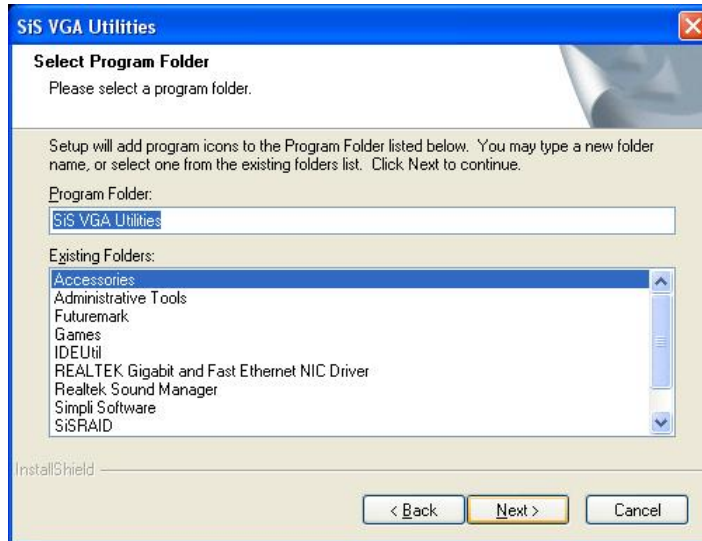

Figure 6-23: Select Folders to Copy Files
Step 3: The **Select Program Folder** screen appears (**Figure 6-23**). Select a destination folder for the program and click **NEXT** to continue the installation.